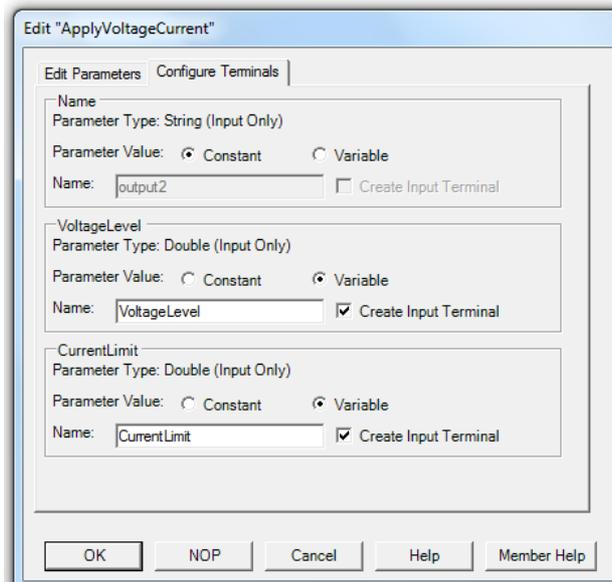

Fig. 17: Creating input terminals for IVI driver object
12) In order to create input terminals, click on **Configure Terminals** tab and then on **variable** and **Create input terminal** under **VoltageLevel** and **CurrentLimit** as shown in Fig. 17. Click on **OK**.